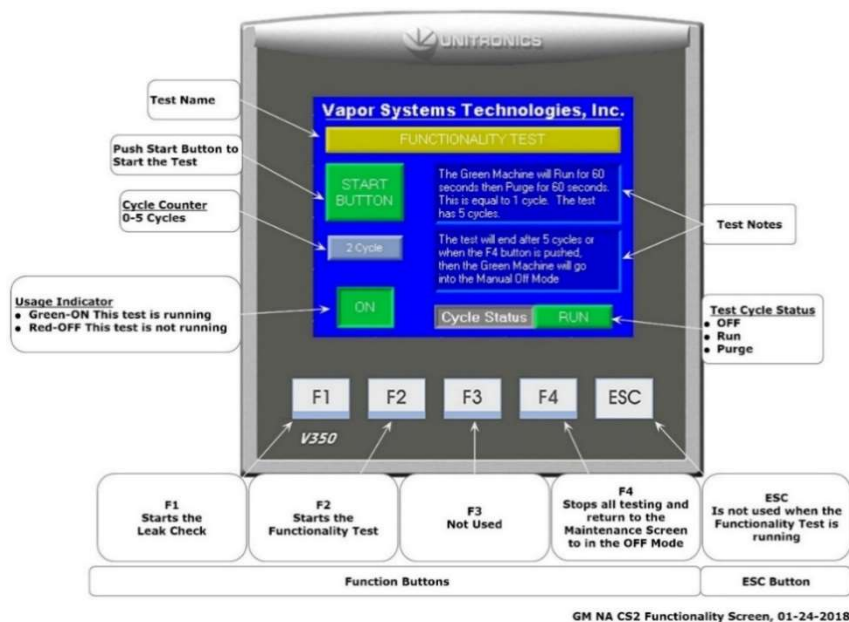

Figure 6-8: Functionality Test Screen
1. Push the F2 button to access the Functionality Test Screen. **See Figure 6-8.**